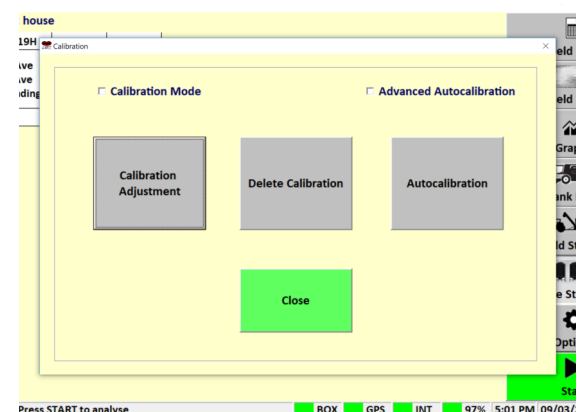

Figure 4.8. Calibration Menu.
- 2) Click on **Calibration Adjustment** menu. figure 4.8
- 2) Click on **Delete Calibration** figure 4.8